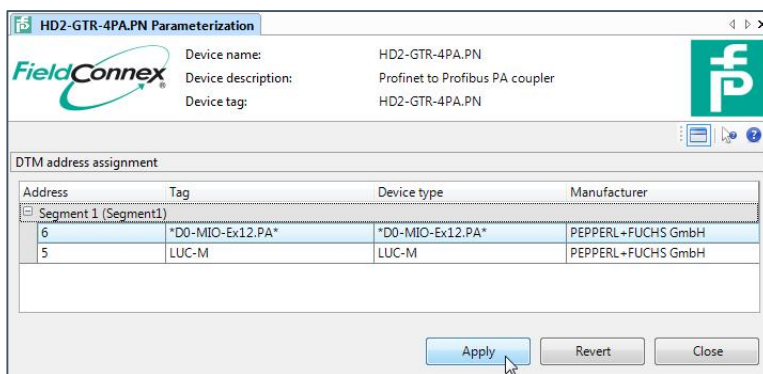

Figure 86: Setting the correct slot addresses at the corresponding segment
- 9) Input the corresponding device slot address, such as **6** and **5** respectively under segment 1 for the examples so far. Then click **Apply** and **Close** (see: Figure 86: Setting the correct slot addresses at the corresponding segment).